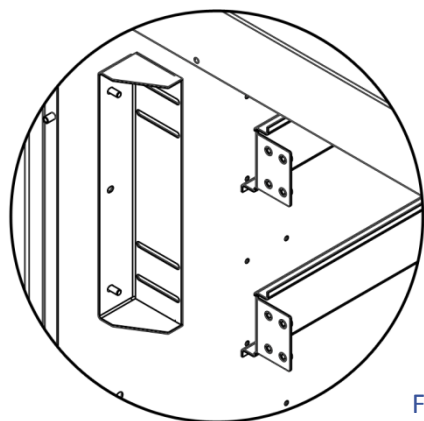

Figure11
- For the alternate bracket type, simply loosen the fittings and rotate the bracket depending on whether you want to increase and decrease distance (Figure11&12)